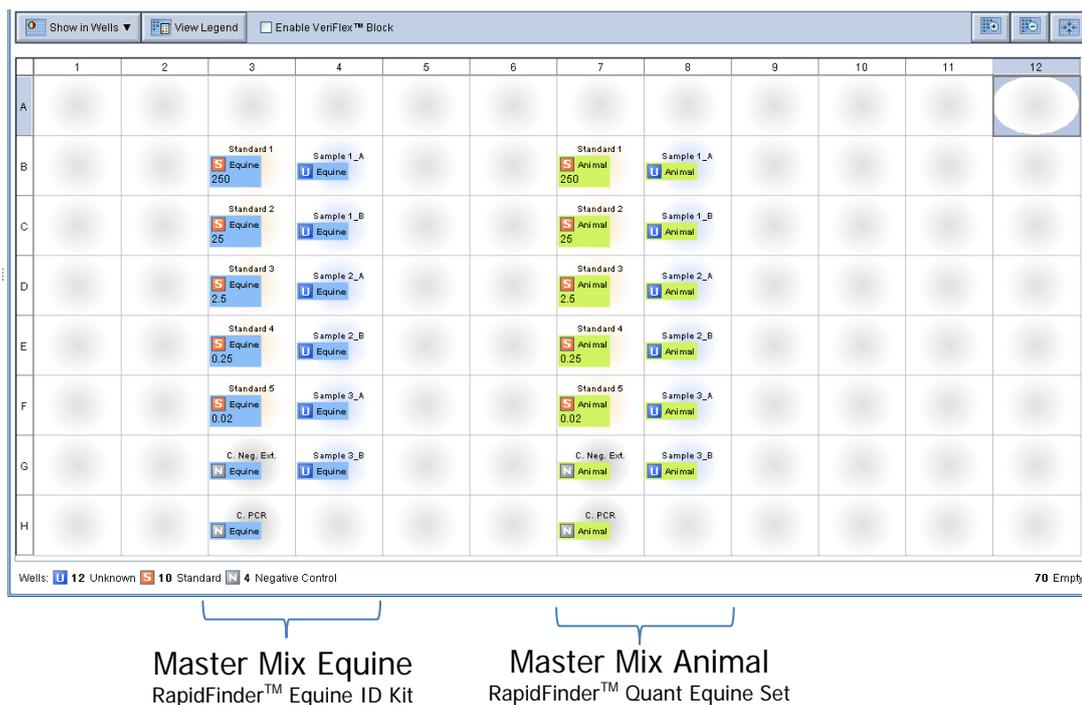

Figure 2: Proposed design analysis for 3 samples obtained from the same DNA extraction round.
3. For each reaction to be performed, mix 7,5 µL of Animal master mix with 12,5 µL of General master mix at one 1,5 ml tube. Shake on the vortex, then pipette 20 µL into each well or tube (see the example for three samples in figure 2)